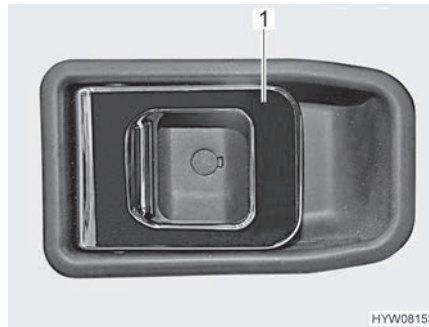

Fig. 25 Door lock (driver's door, inside)
- Opening:* ■ Pull on the handle (Fig. 25,1). The door lock is unlatched or opened.
- Locking:* ■ Push the handle (Fig. 25,1). The door lock is locked.